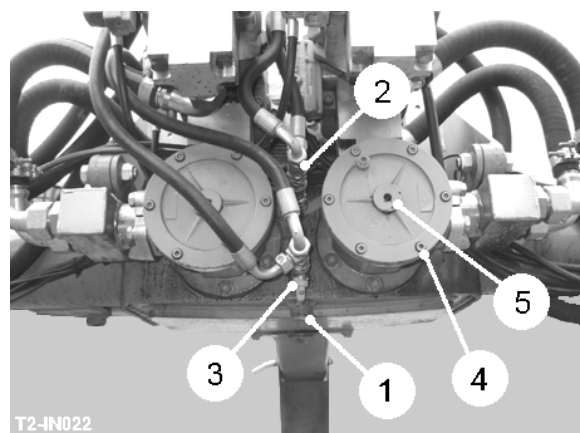

Fig 36
The oil reservoir magnetic plug (item 1, fig. 36), located underneath the centre of the front beam, should be removed and cleaned annually. This plug is also used to drain the reservoir, so if the oil is not being changed a temporary 3/4" BSP plug should be used to seal the tank and minimise oil loss.
The shut-off valves (item 2 & 3, fig. 36) connected to the pump case drain lines allow maintenance to be carried out without draining the oil tank.
1. Wind the suction filter screw (item 4, fig. 36) fully out anti-clockwise to close the cut-off valve within the filter housing.
2. Release the six screws (item 5, fig. 36) holding the filter lid. A small amount of oil will be lost from the filter body.
5. Wind the suction filter screw (item 4, fig. 36) fully in clockwise to open the cut-off valve.